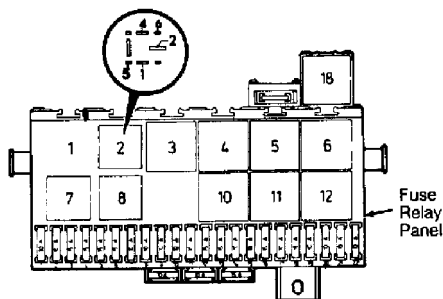

Fig. 6: Identifying Fuse/Relay Panel (All Models Except Vanagon)
1) Ensure fuel pump fuse (No. 5) is okay. Remove fuel pump relay (No. 2) from fuse/relay panel. See Fig. 6. With ignition on, check for battery voltage between the following locations:
1) Ensure fuel pump fuse No. 18 is okay. Remove fuel pump relay No. 12 from fuse/relay panel. See Fig. 6. With ignition on, check for battery voltage between the following locations: